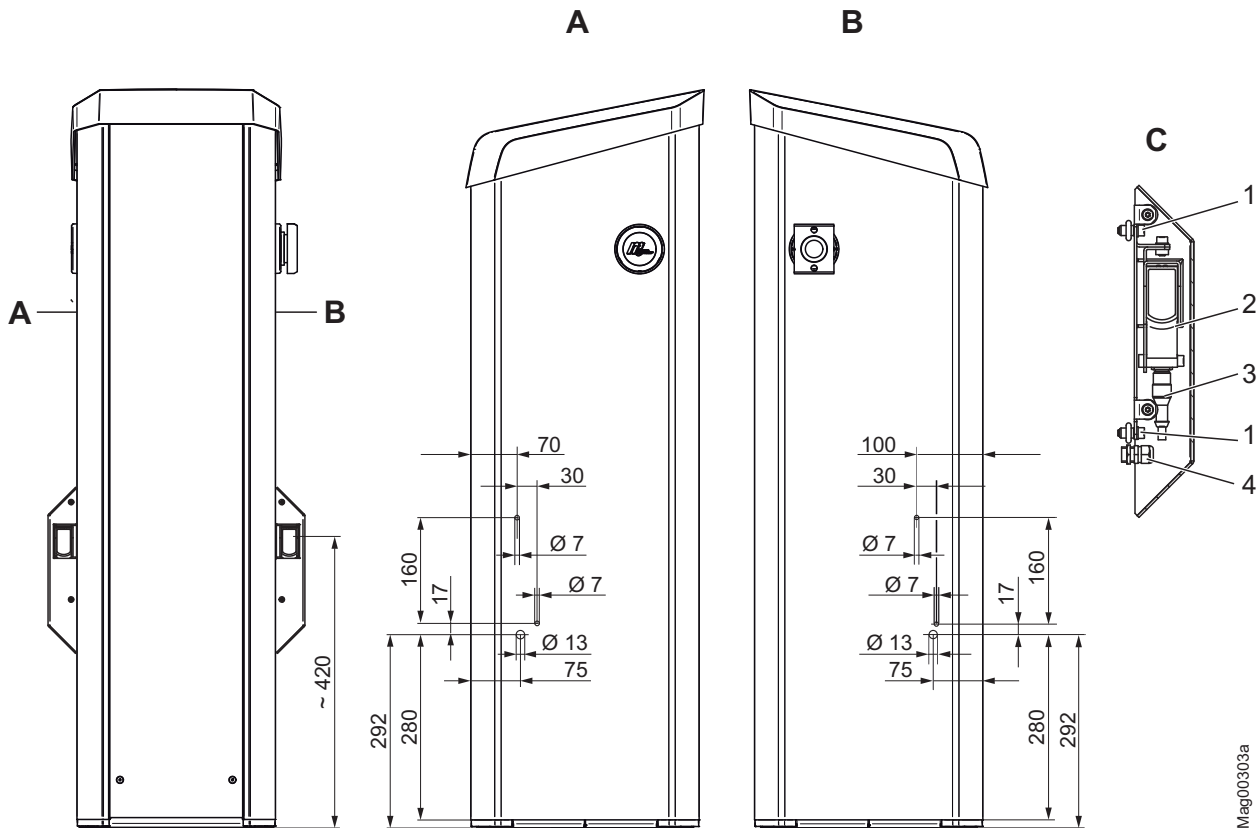

Fig. 20: Assemble of the transmitter's light barrier housing on the barrier housing (dimensions in mm)
1. Drill holes for the light barrier housing according to Fig. 20.